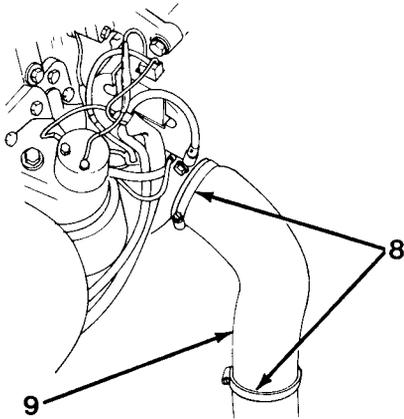

Figure 9-5
8. Install lower hose (9) and secure with two clamps (8, Figure 9-5).